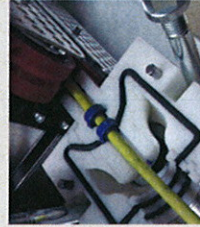

Figure 6
- 6) Put the nutrings in the same format of the figure 6 and pass cable through the nutrings.